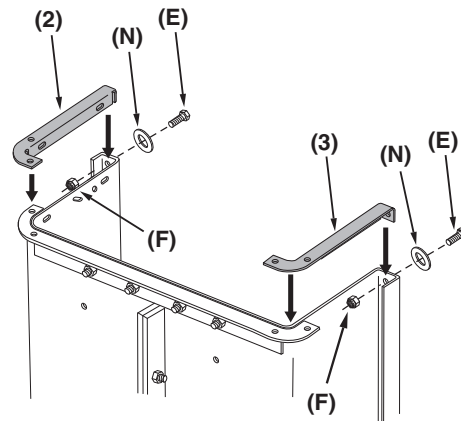

Figure 3
**STEP 3 (SEE FIGURE 3):** Attach the left (2) and right (3) rear angle brackets to the cart using two 1/4" x 3/4" hex bolts (E), 1/4" washers (N), and 1/4" nylock nuts (F). **Do Not Tighten!**